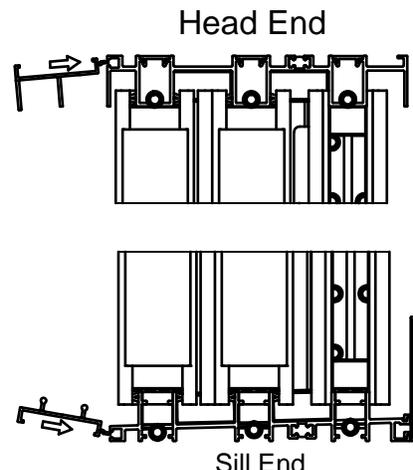

Figure 15.
Step 3. (Screen Track Installation) Insert the tongue of the screen sill track into the frame sill accessory groove and rotate downward until the screen track makes contact with the foundation. Repeat this procedure at the head before proceeding (See Figure 15).